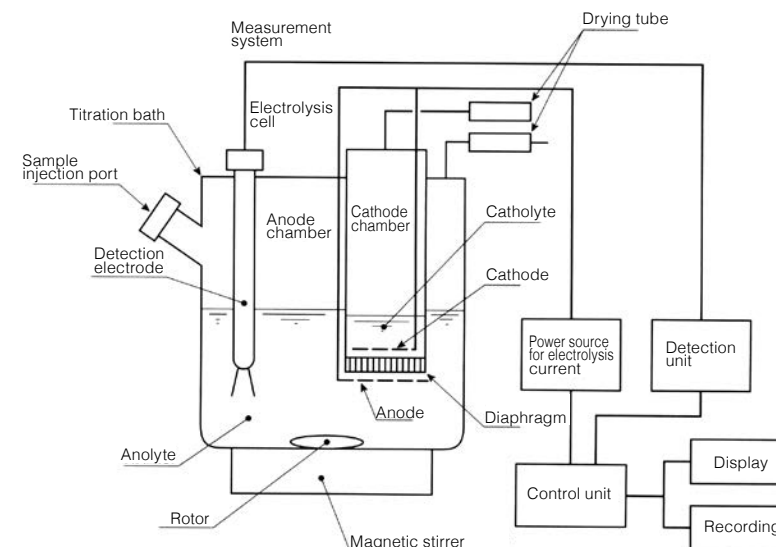
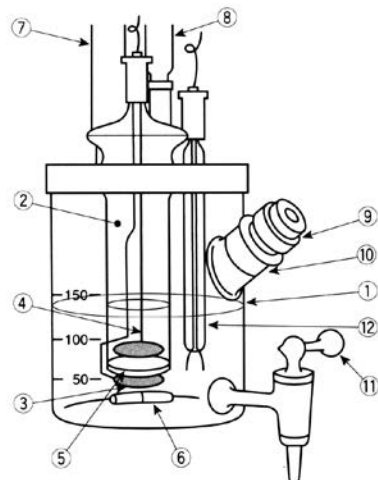

Figure 2: Automatic Coulometric Moisture Meter
Figure 3: Electrolysis Cell
- Electrolyte solutions (Aquamicron AX and CXU) are introduced into the anode and cathode chambers of an electrolysis cell (Figure 3) attached to an automatic coulometric moisture meter (Figure 2).